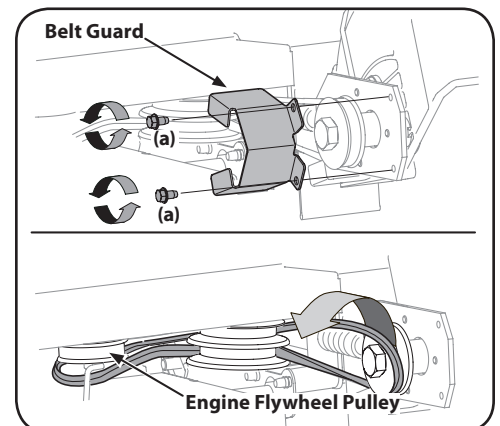

Figure 4-5
3. Remove the spindle sheaves belt guard by removing the two self-tapping screws (a) which secure it to the blade plate assembly. See Figure 4-5.
4. Carefully remove the belt from off of the pulleys, again making sure to note the orientation of the belt. Discard the belt. See Figure 4-5.
- NOTE:** Make certain that the "V" side of the belt is seated into the top pulley and the flat side of the belt is seated into the bottom pulley. See Figure 4-5.